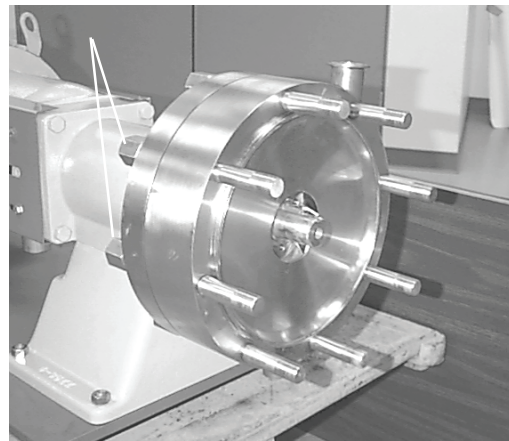

Figure 22
8. Remove rear retaining nuts from casing and remove casing. (Figure 22)